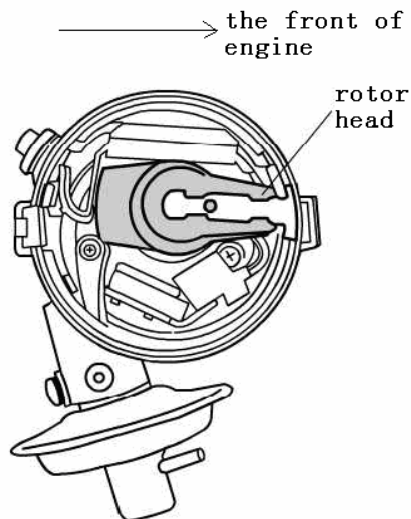

Fig. 4-5 The position of rotor head when the piston in No.1 cylinder is at TDC compression stroke
- Open distributor cover and observe the position of rotor head make the end with notch of contact set face forward (fig.4-5)